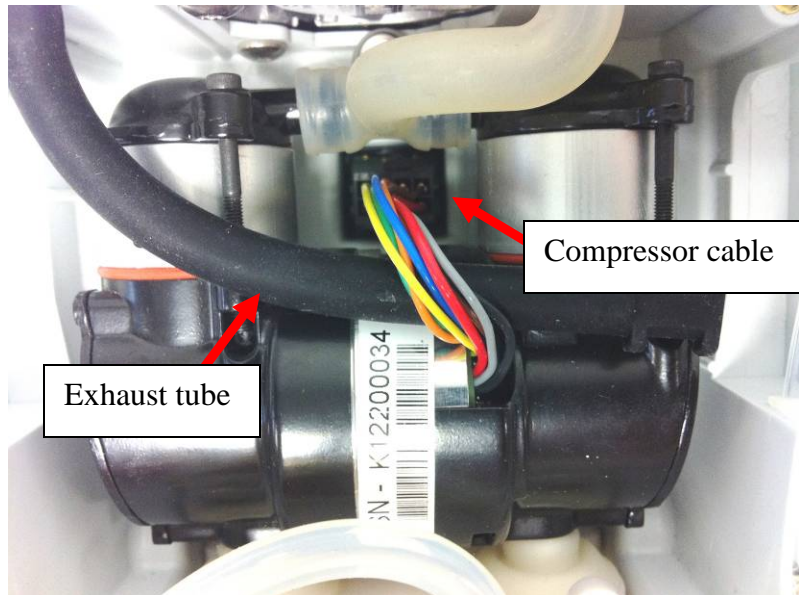

Figure 14: Compressor components
7. Slide the exhaust tube out of the compressor cable loop (Figure 14).
8. Unplug the compressor cable (Figure 14) from the motherboard using long pliers to press on the release clip while gently pulling the connector housing away from the motherboard. *Do not pull on the compressor lead wires.*
7. Plug the compressor cable back into the motherboard, assuring proper connection by gently pulling on the cable (Figure 14).
8. Place the black exhaust tube back through the compressor cable loop (Figure 14).